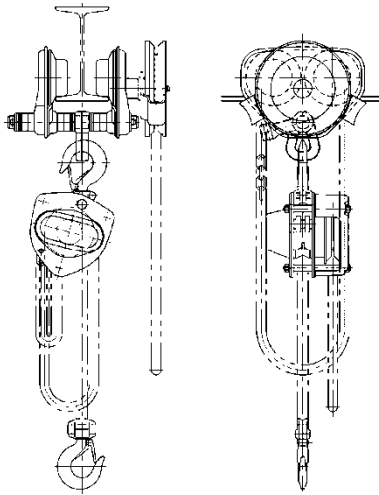
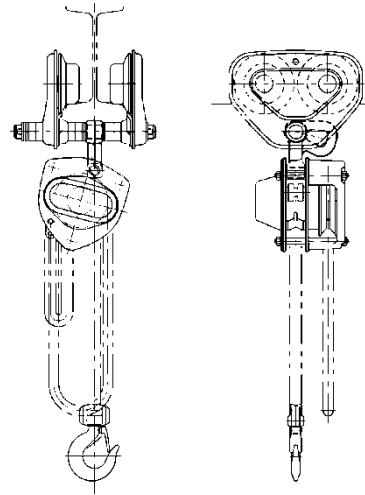

Figure 3-1 ½-5 Ton CB Hook Mount
Figure 3-2 ½-5 Ton CB Lug Mount
- 3.1.1 For ½ - 5 Ton capacities, Harrington's Model CB Series chain hoist can be Hook mounted to the TF2/TS2 Trolley using suspender "C" as shown in **Figure 3-1** or Lug mounted to suspender "C" as shown in **Figure 3-2**